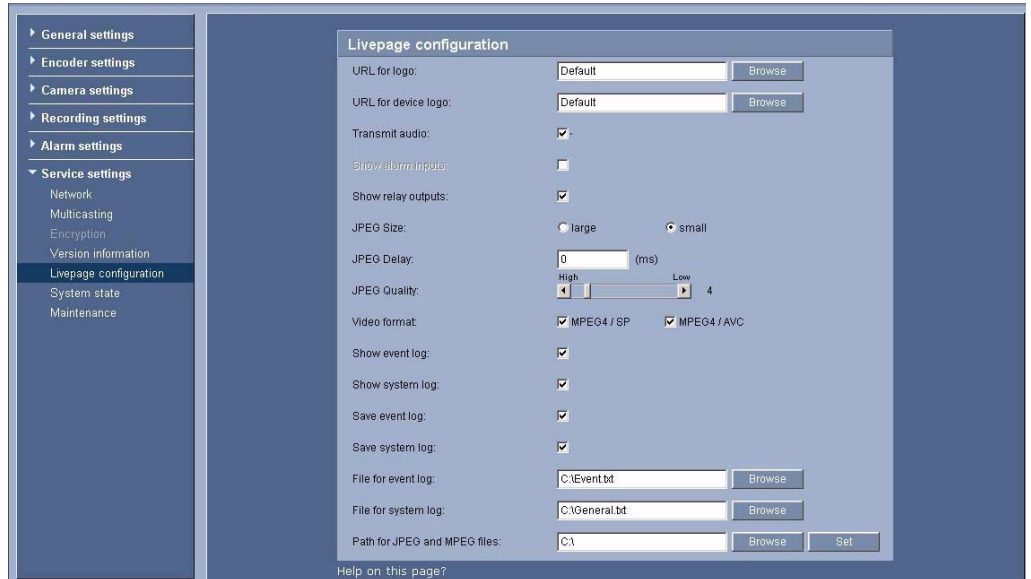

Figure 3.2 Livepage Configuration
2. Click Service Settings from the left pane, then click Livepage Configuration. The AutoDome 700 Series displays the Livepage Configuration screen (see *Figure 3.2*).